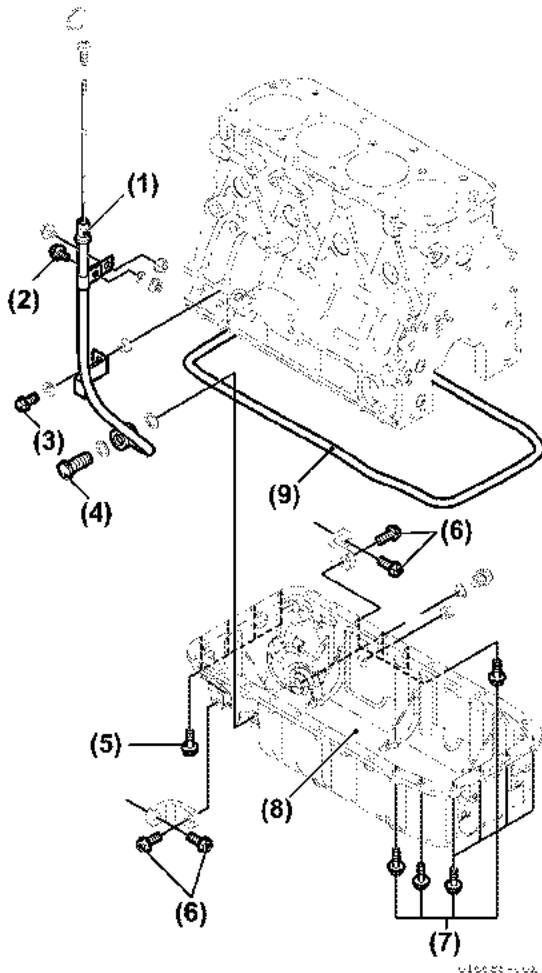

Figure 8-10
2. Remove bolts (Figure 8-10, (2), (3)) securing oil dipstick tube to cylinder block or support. Remove piping bolt (Figure 8-10, (4)) and oil dipstick tube (Figure 8-10, (1)) from oil sump.
3. Remove bolts (Figure 8-10, (5), (6)) that secure oil sump to flywheel housing.
4. Remove bolts (Figure 8-10, (7)) securing oil sump to cylinder block.
5. Remove oil sump (Figure 8-10, (8)) and gasket (Figure 8-10, (9)).